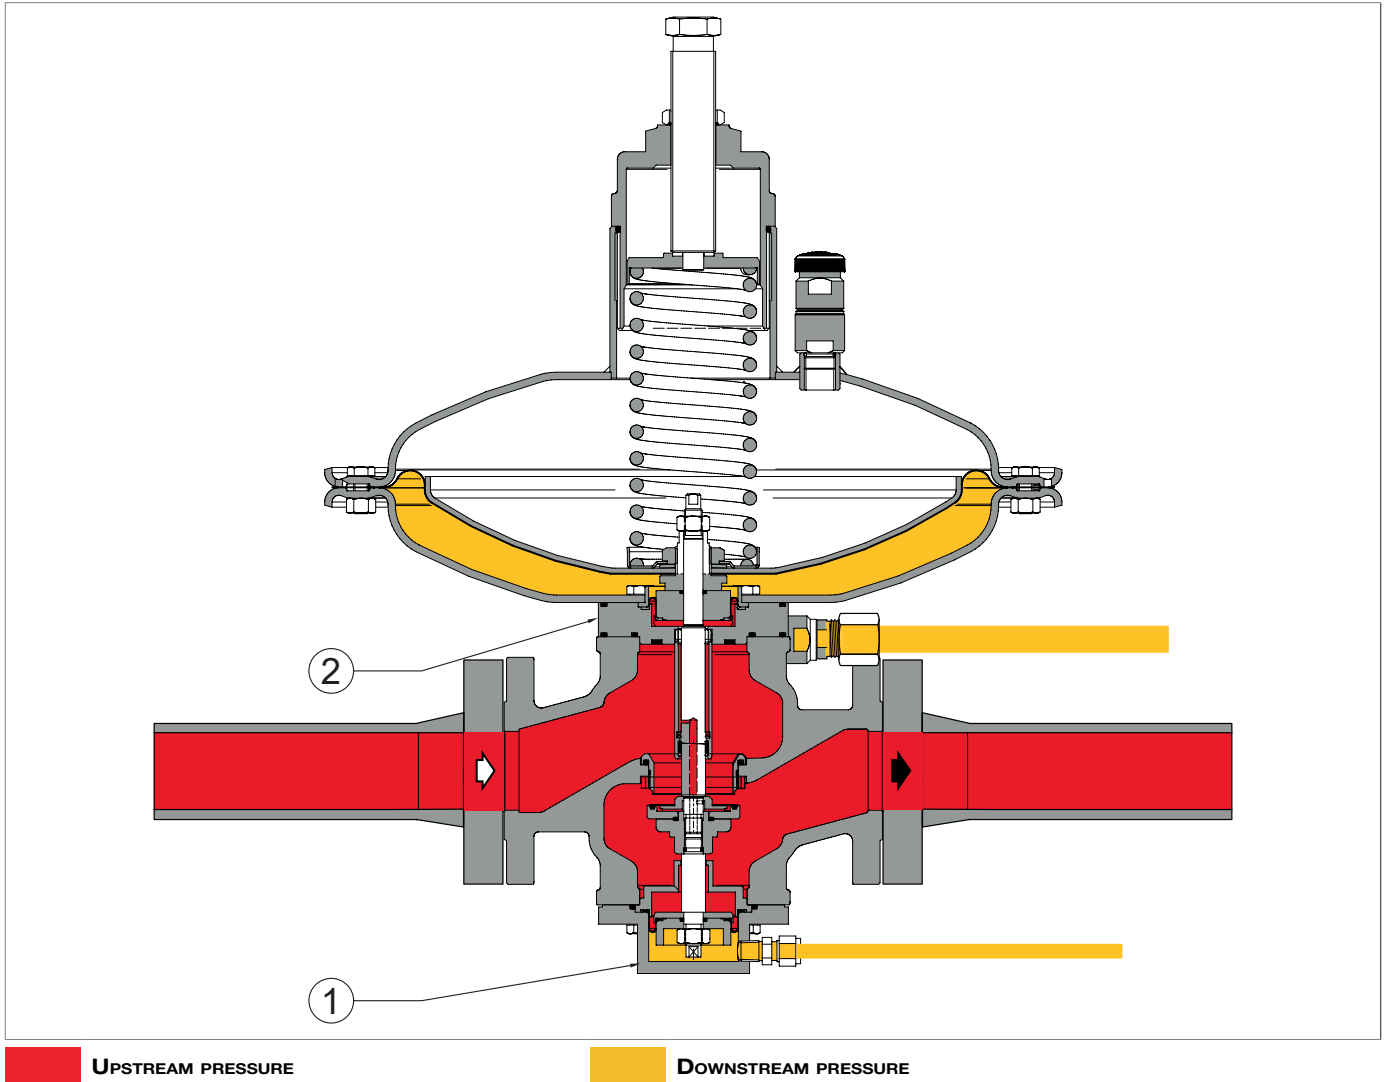

Fig. 4.4. Regulator with monitor function with ER device
The regulator with monitor function is a regulator which, in addition to the normal version, has a balancing device (ER device (1), see fig. 4.4) of the mobile equipment. The ER device (1) is installed on the lower flange of the monitor regulator (2).